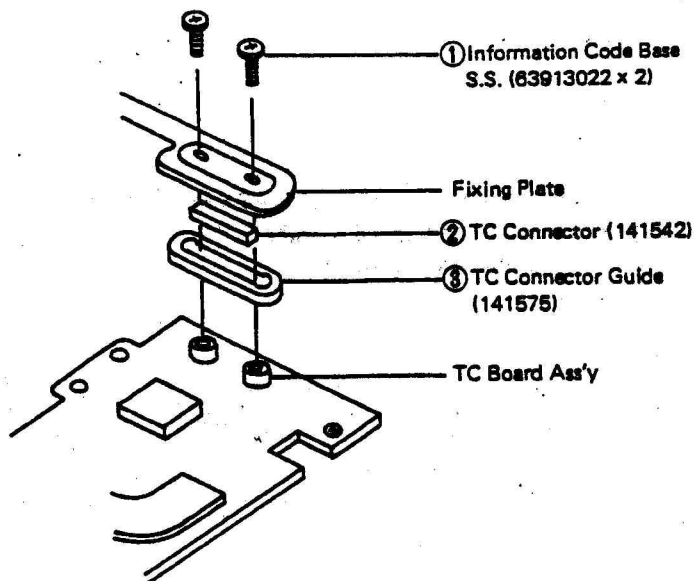

Fig. 60
- d) Remove the respective parts ① ~ ③ shown in (fig. 60) in numerical order.